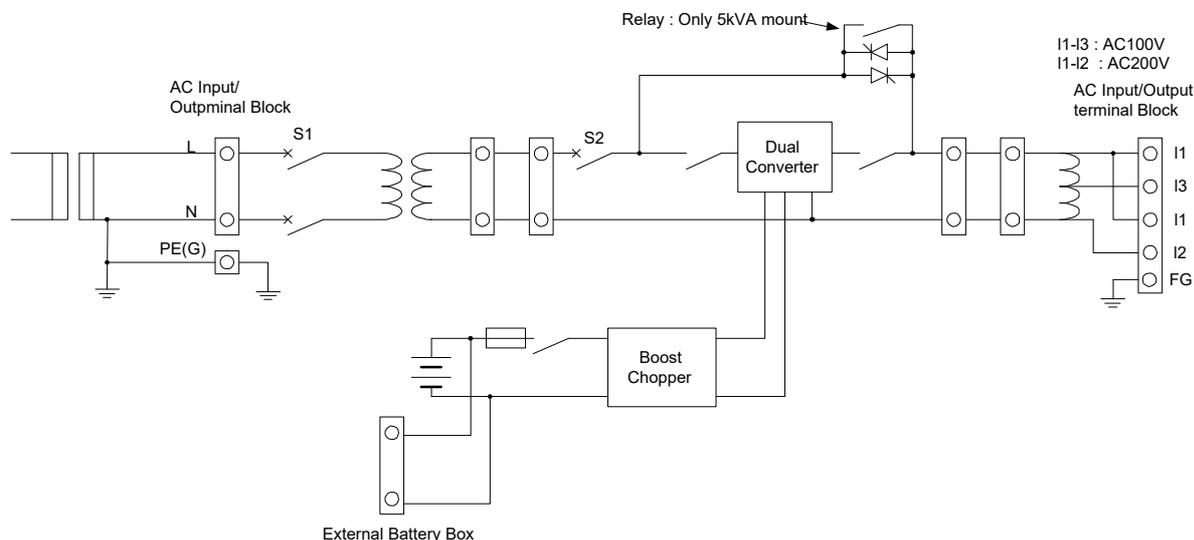

Figure 1. Diagram of All Models
- Figure 1 shows the circuit diagram.